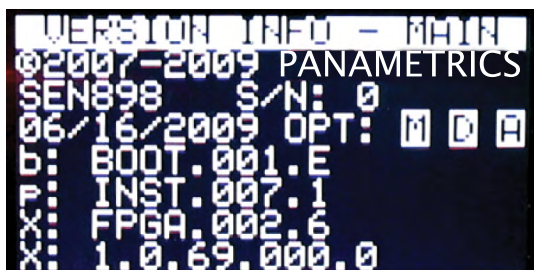

Figure 53: Software verification screen
- c. Press [ENT] again to enter Main. The display should appear similar to Figure 53 below.